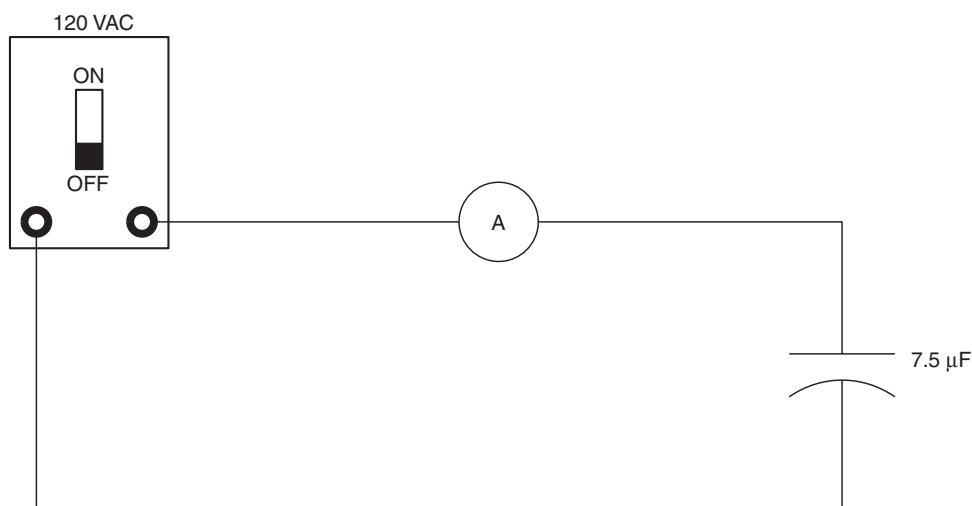

Figure 13-8 A capacitive circuit.
- Connect the circuit shown in Figure 13-8. Turn on the power and measure the amount of current flow. Compare the measured value with the computed value. Are the two answers approximately the same?